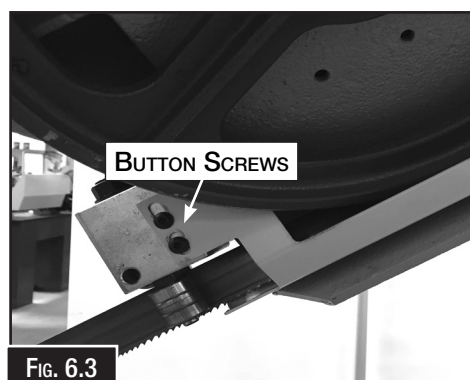

FIG. 6.3
5. Remove the blade guard on the movable roller guide by removing the two button head cap screws. (Fig. 6.3)